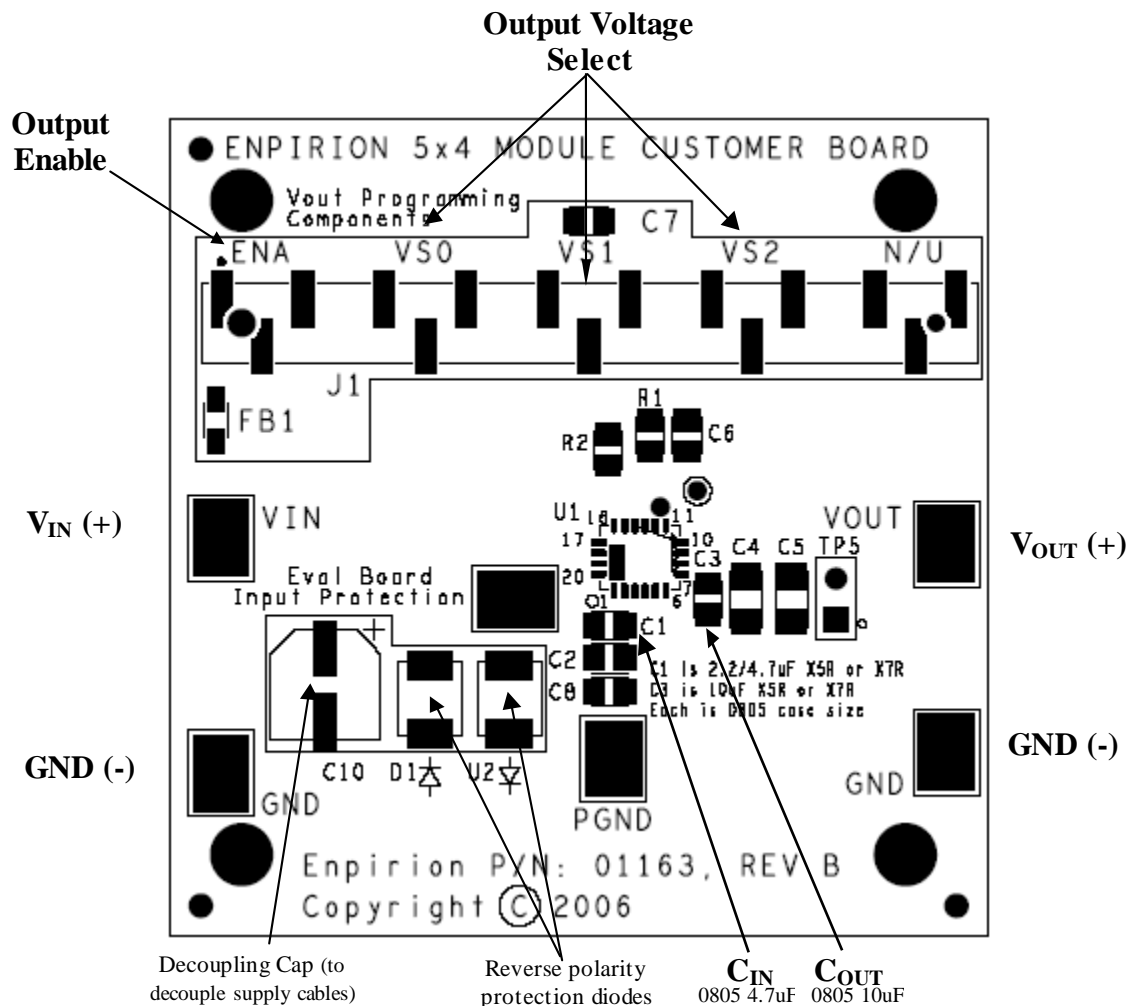

Figure 1. Evaluation Board Layout.
Figure 1 shows a top view of the evaluation board.
STEP 3: Connect Power Supply to the input power connectors, VIN (+) and GND (-) as indicated in Figure 1.
STEP 4: Connect the load to the output connectors VOUT (+) and GND (-), as indicated in Figure 1.